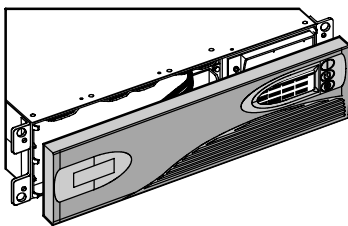

Figure 4. Installing the UPS Front Cover
4. Install the UPS front cover (see Figure 4).